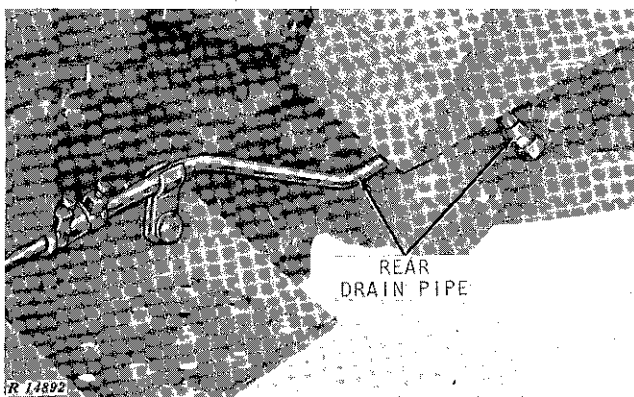

Fig. 7-Power Front-Wheel Drive Drain Pipe
5. Disconnect hydraulic pump oil seal drain tube (Fig. 7).
15. Disconnect Power Front-Wheel Drive drain pipe (Fig. 7).
On tractors equipped with Power Front-Wheel Drive, remove the drain pipe (Fig. 7).
Connect Power Front-Wheel Drive drain pipe (Fig. 7).